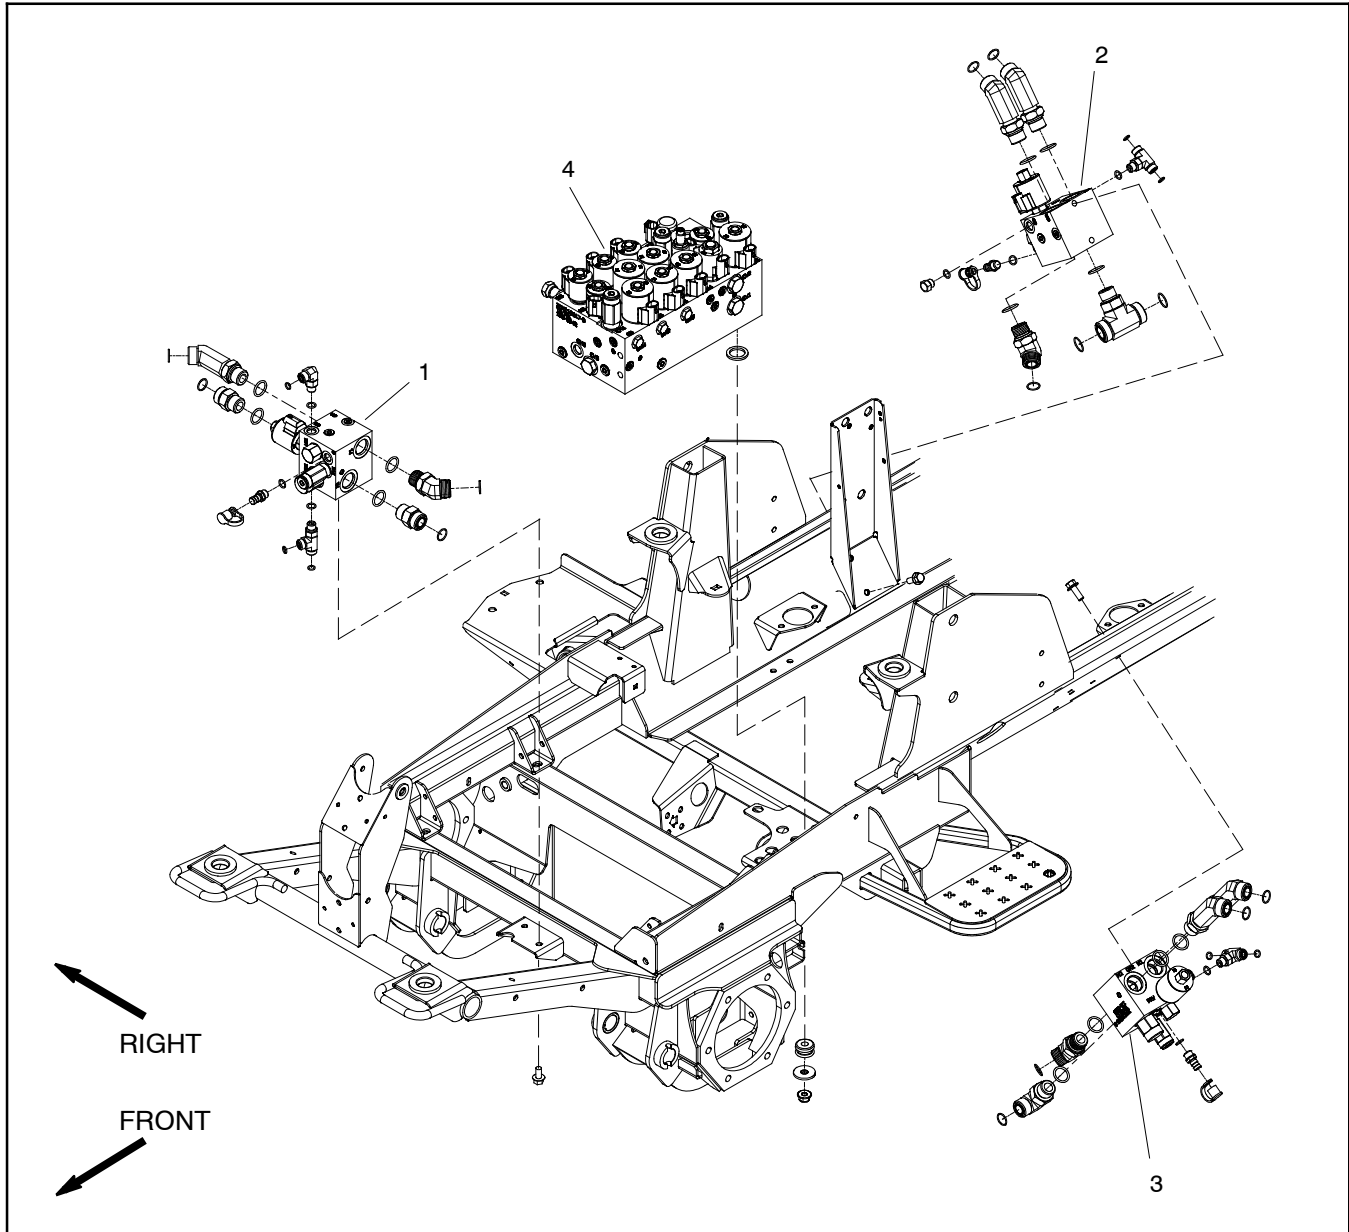

Figure 69
2. Locate hydraulic solenoid valve coil to be tested (Fig. 69). Disconnect wire harness connector from coil.